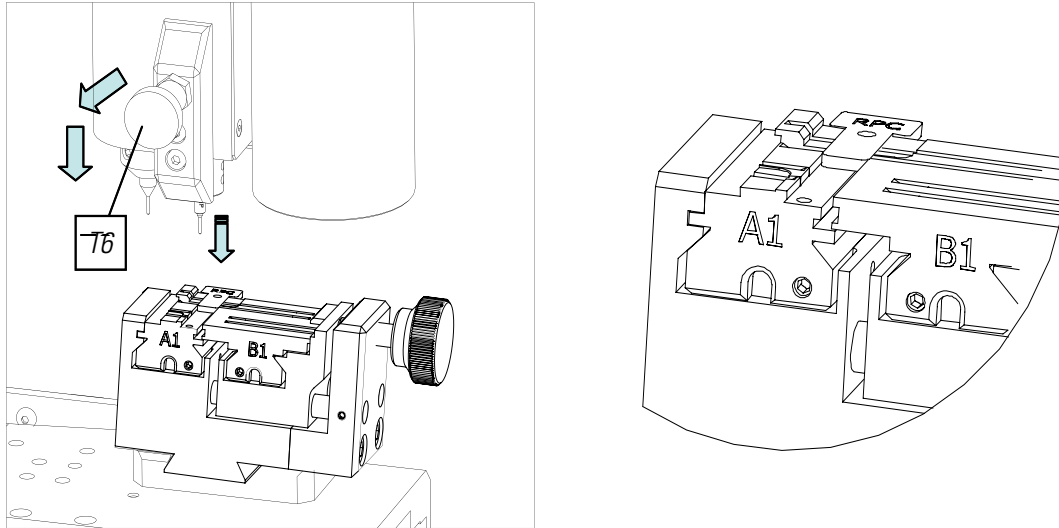

FIG. 18
- 2) Position the RPC adjustment plate in the clamp, from the back side of the clamp (Fig.18)